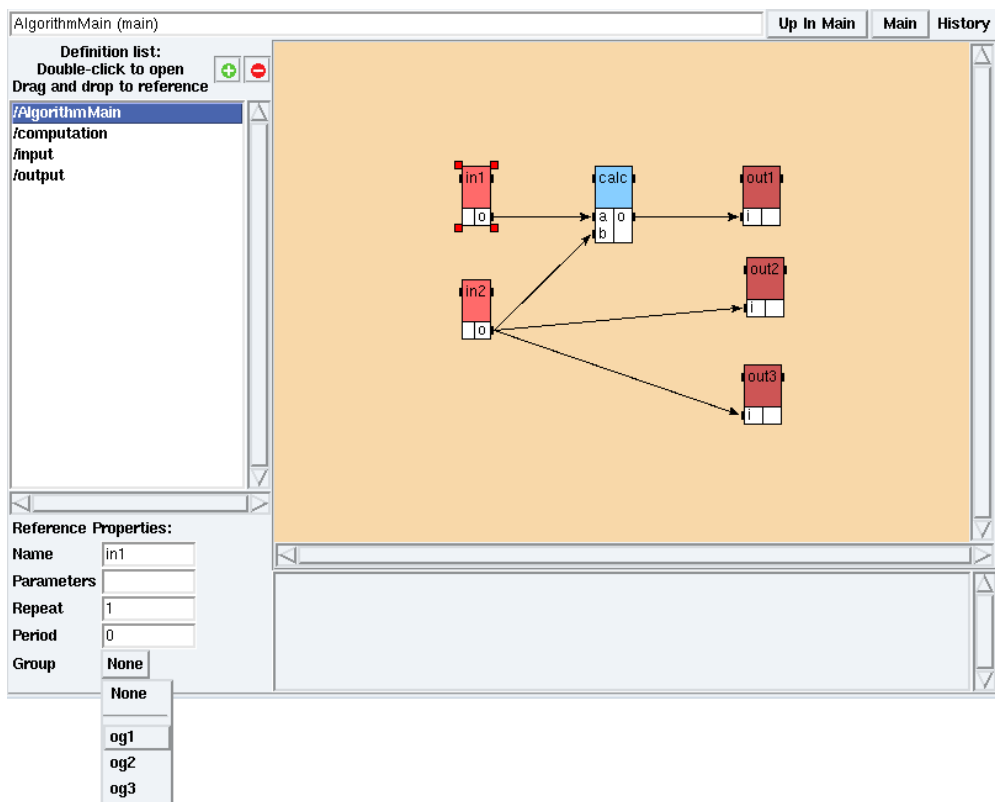

Figure 1.24: Attach a reference to an operation group
- select the operation in1, click on the **Group** button of its **Reference Properties** then select **og1** (*cf.* figure 1.24),